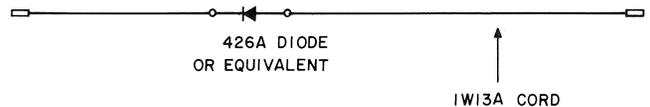

Fig. 2—Modified Cord Used to Hold Senders
**6.03** Prepare a cord locally as shown in Fig. 2. Cut the cord about 6 inches from one end and splice in the diode with the arrow pointing toward the short end of the cord.